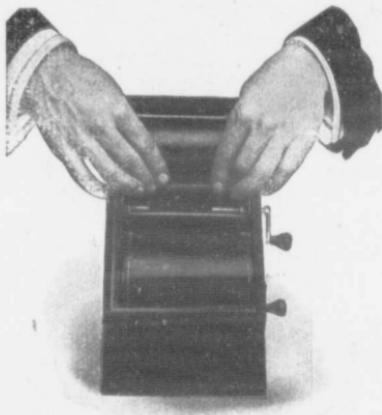

FIG. 4.
6. Break the sticker that holds down the end of duplex paper, thread the paper underneath wire guard on Transferring Reel—through which axle "D" passes (Fig. 4), and turn axle slowly to right until the word "stop" appears on duplex paper.